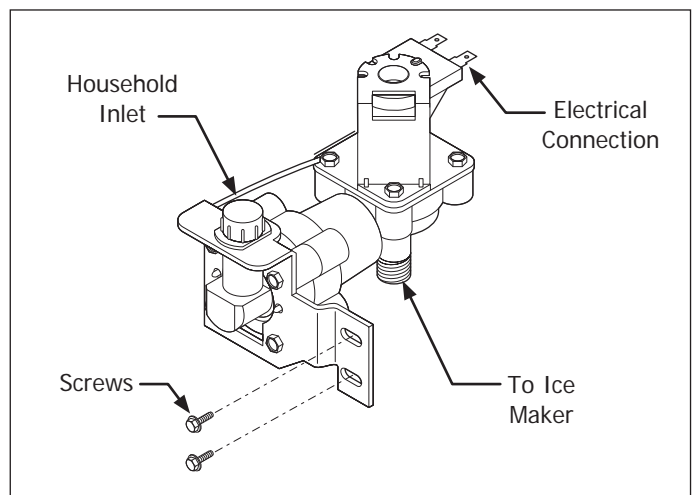

Figure 5-23. Water Valve Removal
3. Disconnect water valve from household water supply. (See Figure 5-23)